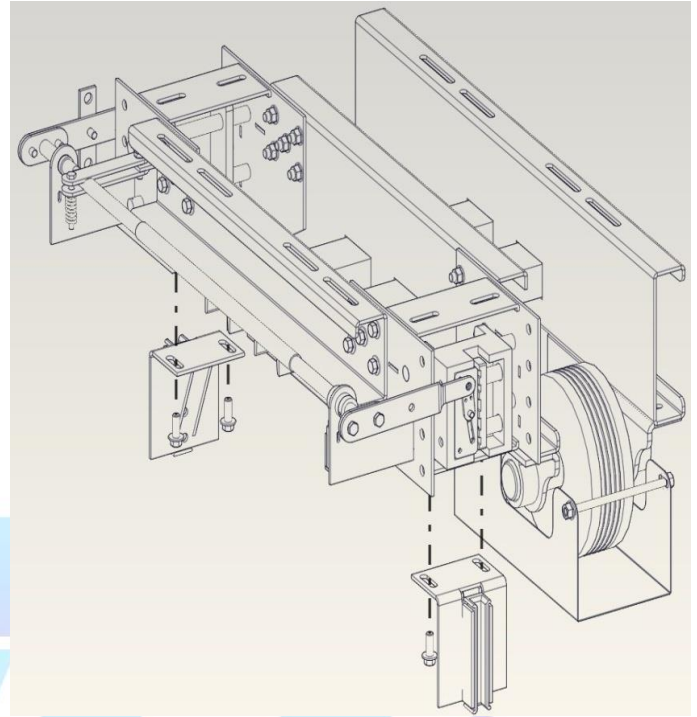

Figure 3
As it described in figures assemble guide shoes with upper car frame (figure 2.) and bottom car frame (figure 3.) by using (8)M12x60 DIN 6921 and (8)M12 DIN6923. Distance between guide shoe and guide rail should be 1 mm.